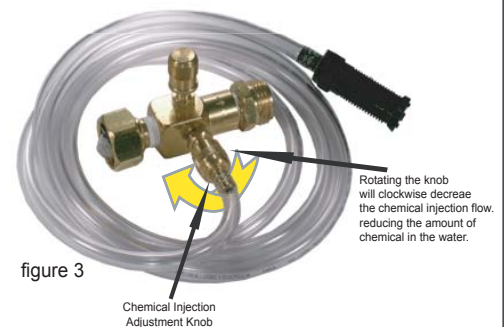

figure 3
- The injection adjustment flow is controlled by another external adjustment knob (fig.3) and allows you to adjust the amount of KLEEN KOTE or chemicals that are mixed into the water.